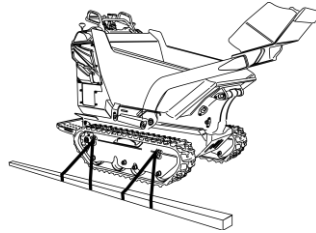

fig. 45 – Anchor points for transportation
- Fasten it firmly to the platform of the means of transport by means of sturdy CE approved tie rods, always connecting them to the points shown as in figure 45.